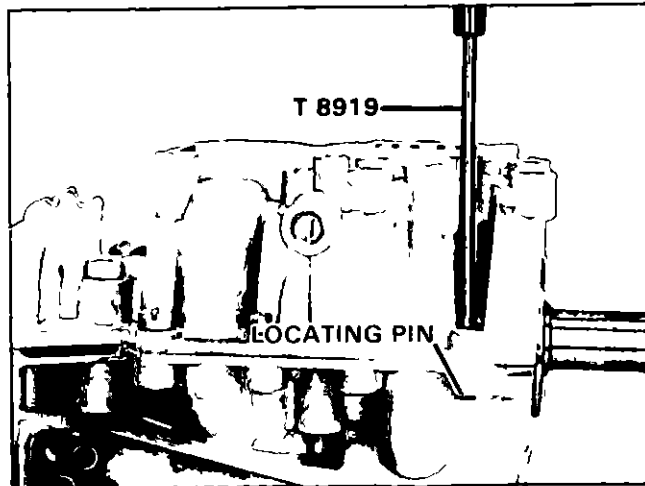

Figure 34. Installing Locating Pins.
- C Place crankcase cover on cylinder. Position crankcase by driving in two (2) locating pins, using Special Tool No T 8919, Figure 34